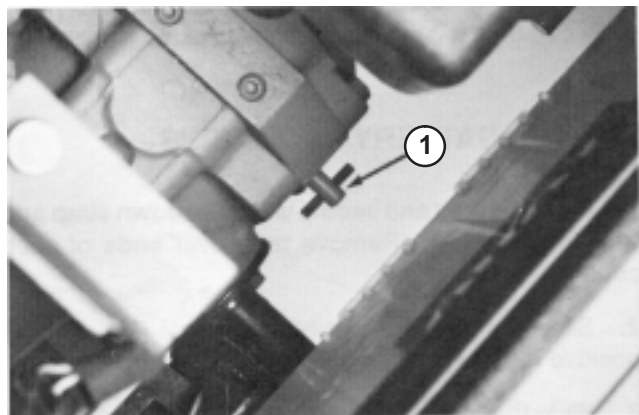

Figure 8
1. Reach in and rotate by-pass valve on transmission (Fig. 8) counterclockwise 1/2 to 1 turn. Opening the valve opens an internal passage in the pump, thereby bypassing transmission oil. Because fluid is by-passed, the machine can be pushed without damaging the transmission.